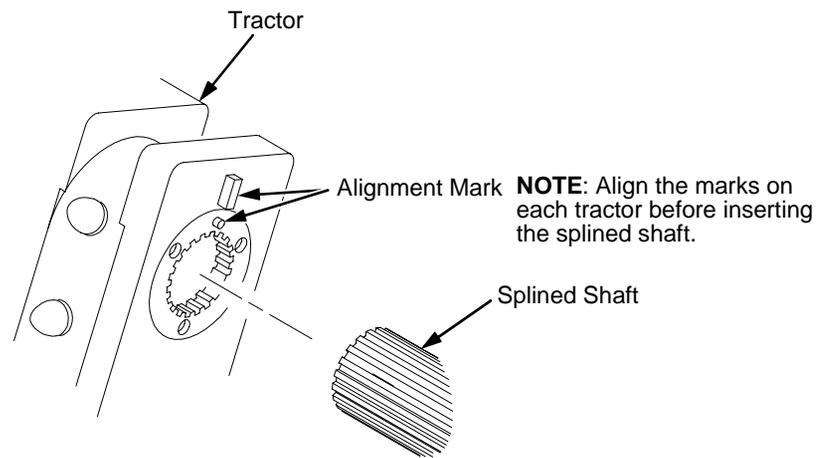

Figure 31. Splined Shaft and Tractor Installation, Earlier Models
1. Open the doors on the left and right tractors. Position the tractor belts so the alignment marks are at the top on both tractors. (See Figure 31.)